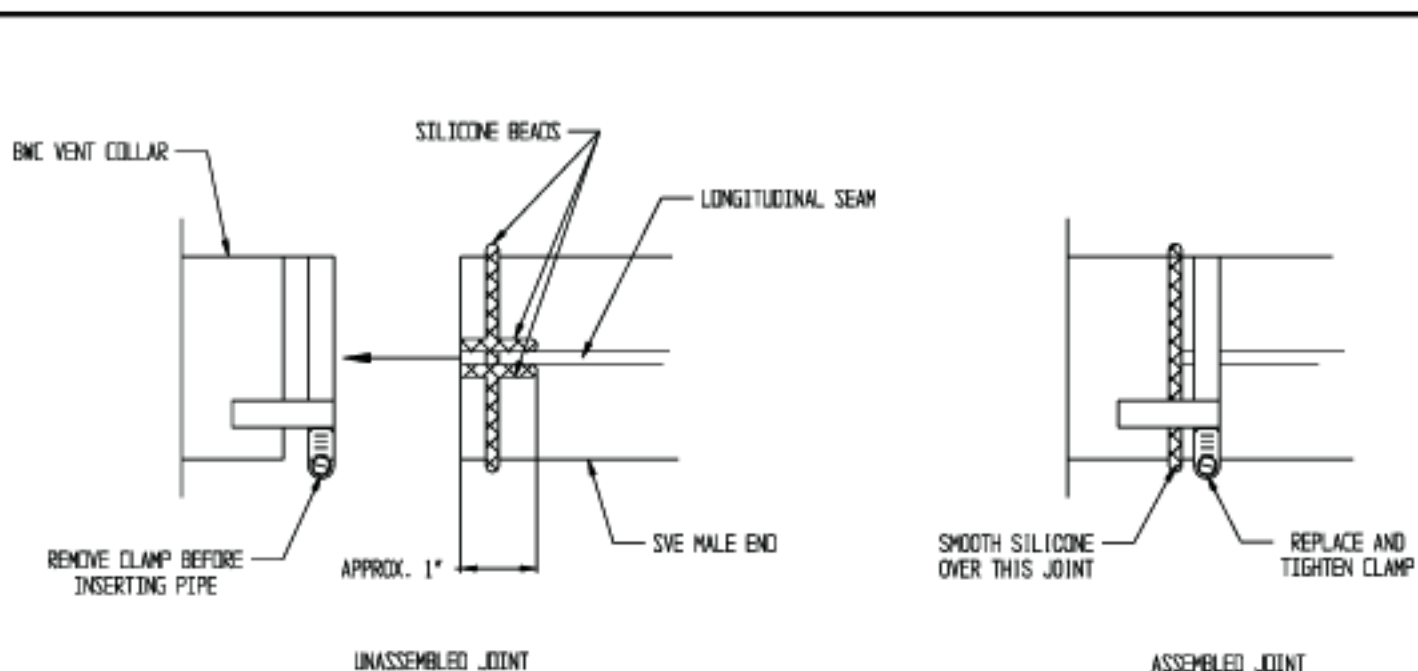

FIGURE 6.14: Z-VENT SINGLE WALL CONNECTION TO VENT COLLAR
- d) On the male end of the pipe, apply a 1/4" wide bead of high temperature silicone approximately 1/2 inch from the male end of the pipe. Apply 1/4" beads of silicone along both sides of the longitudinal seam (Fig. 6.14).